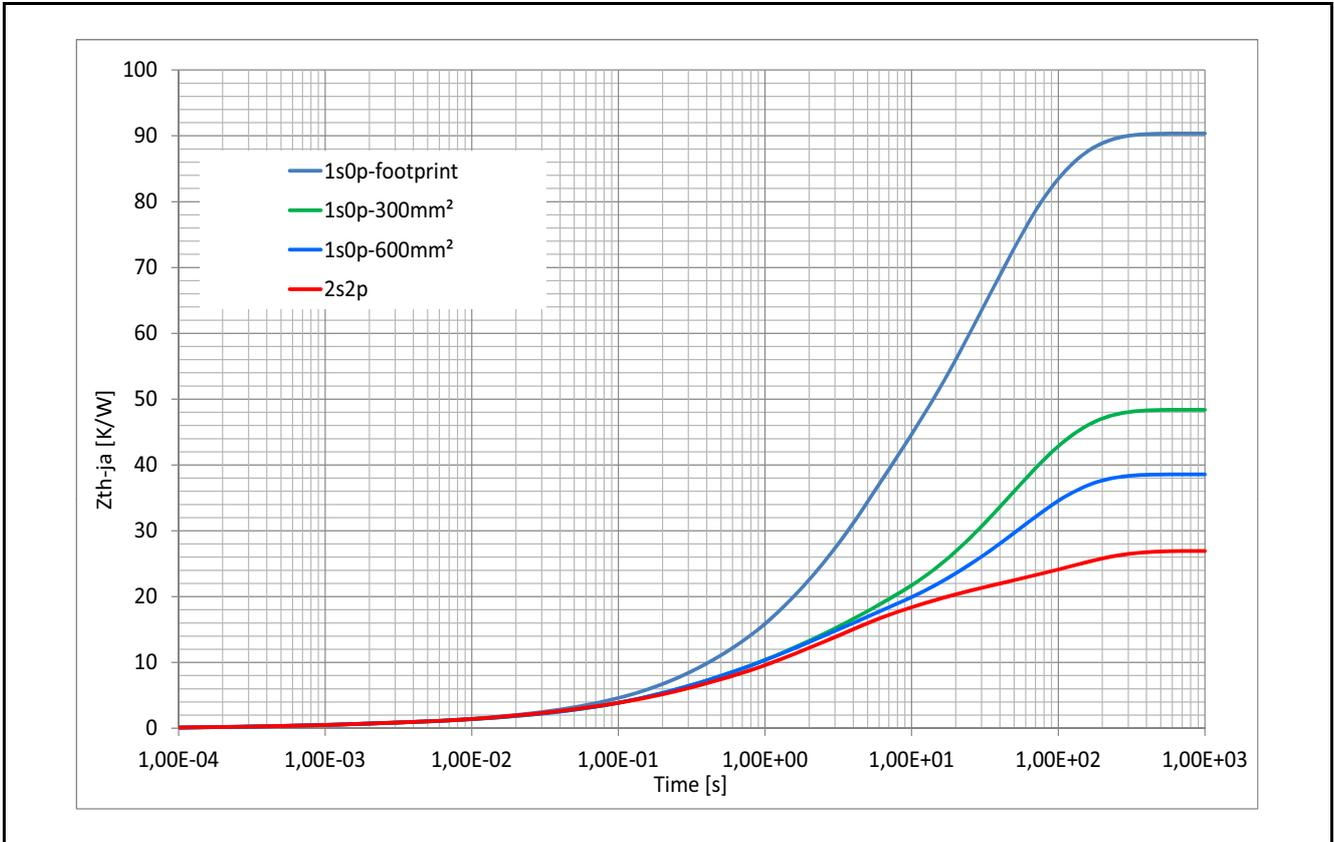

**Figure 4 2s2p PCB Cross Section**
- 2) Specified  $R_{thJA}$  value is according to JEDEC JESD51-2,-5,-7 at natural convection on FR4 2s2p board with 1 W power dissipation at  $T_A=105^\circ\text{C}$  ; The product (chip + package) was simulated on a 76.4 x 114.3 x 1.5 mm board with 2 inner copper layers (2 x 7  $\mu\text{m}$  Cu, 2 x 35  $\mu\text{m}$  Cu). Where applicable, a thermal via array under the exposed pad contacts the first inner copper layer. Please refer to Figure 4.